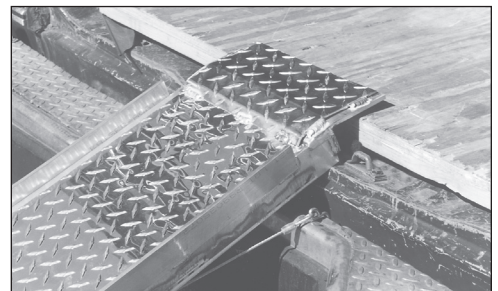

FIG. 3
3. Position ramp securely to back of vehicle; ensure there is good contact (Figure 3).
2. Position ramp securely to back of vehicle; ensure there is good contact (Figure 3).